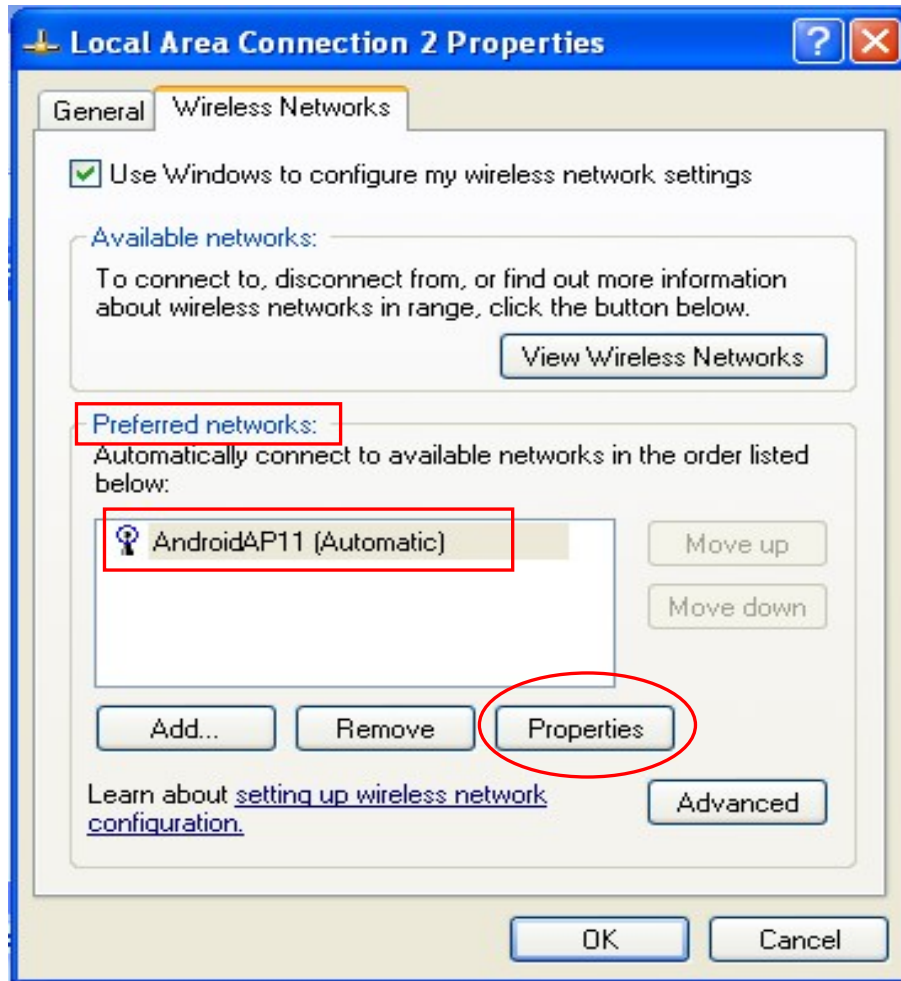

Figure 8
- (3) Select the current wireless network name in the item of "Preferred networks" and then click "Properties". (As shown in figure 8)